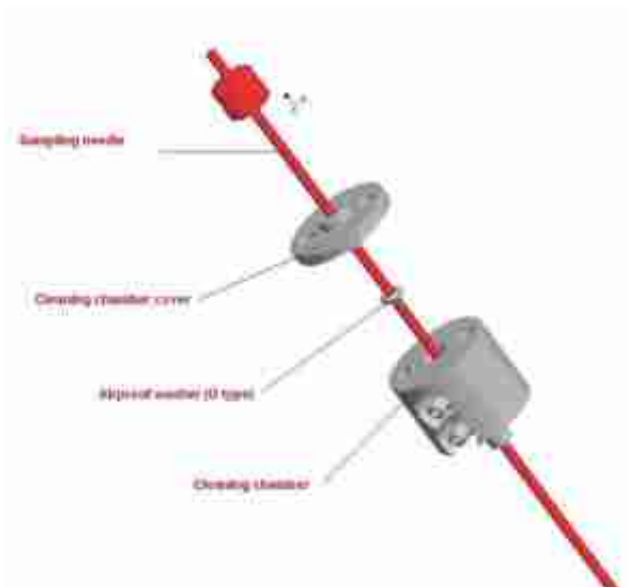

Fig.6-9
2. Remove the sampling needle and wash block from the carrier, then take the wash block cover and sampling needle out of the wash block assembly. Remove the airproof washer and replace it with a new one. Please remember to smear the inside and outside of the washers with airproof lubricating grease and fix the cleaning chamber assembly again in reverse order (don't forget to re-install the tubing on top of the needle), as shown in fig. 6-9: